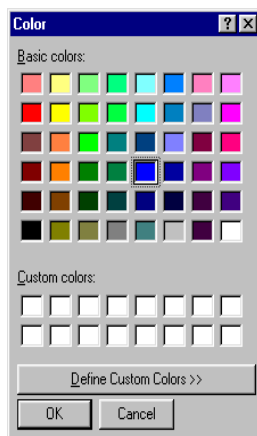

Figure 5-33 Color Dialog Box
1. Click **Title Color**. The Color dialog box displays, as shown in Figure 5-33:
1. Click **Color**. The Color dialog box displays (Figure 5-33).